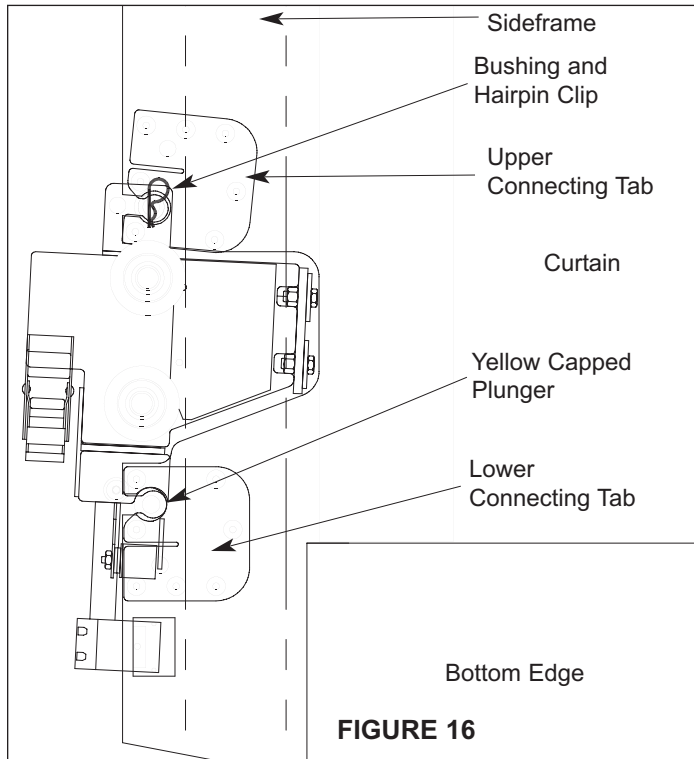

FIGURE 16
7. Push the yellow capped plunger inward and hold, Figure 16.